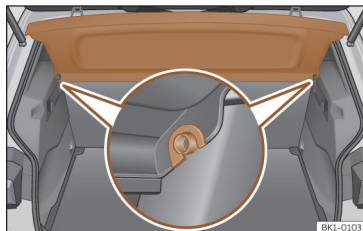

Fig. 153 In the boot: removing and installing the shelf.
- Remove the rear shelf from the side supports >>> **Fig. 153** by pulling it upwards and then take it out.
- Insert the cover horizontally so that the "recess" fits onto the axis of the supports >>> **Fig. 153** and press down until it engages.